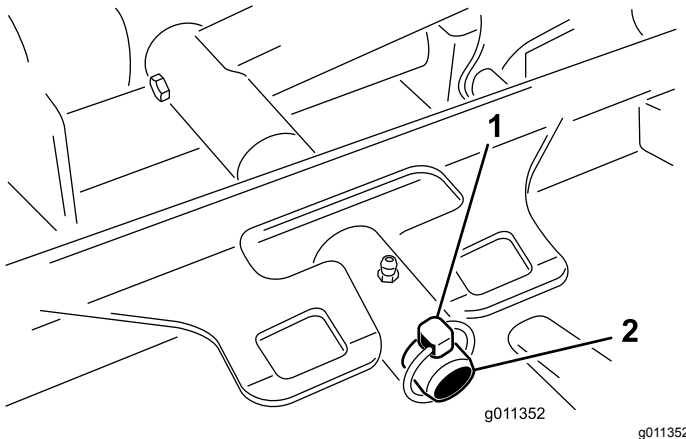

Figure 98
3. Remove the lynch pin (for Groundsmaster 4500 machines) or retaining nut (for Groundsmaster 4700 machines) securing the deck-carrier frame to the lift-arm pivot pin (Figure 98).
2. Slide the deck carrier frame onto the lift-arm-pivot pin (Figure 98). Secure the deck to the pin with the lynch pin (for Groundsmaster 4500 machines) or retaining nut (for Groundsmaster 4700 machines).